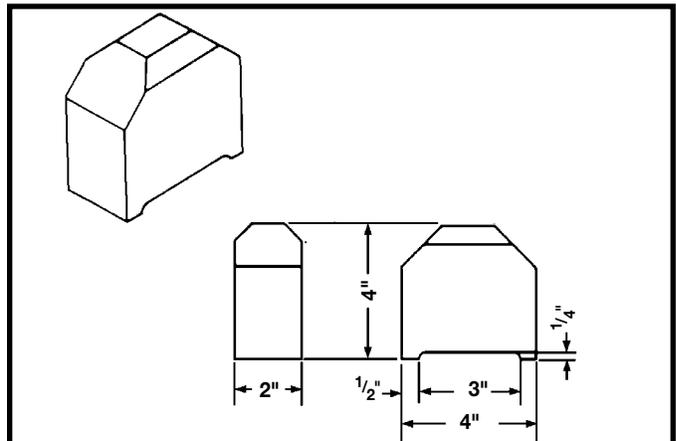

Fig. 33
1. The outfeed roller is adjusted at the factory to be 0.020" below the cutting circle. In order to check and adjust the outfeed roller, you will need a homemade gage block made of hardwood. This gage block can be constructed by following the dimensions shown in Fig. 33. **NOTE: Make sure that the height of the block is exactly 4".**